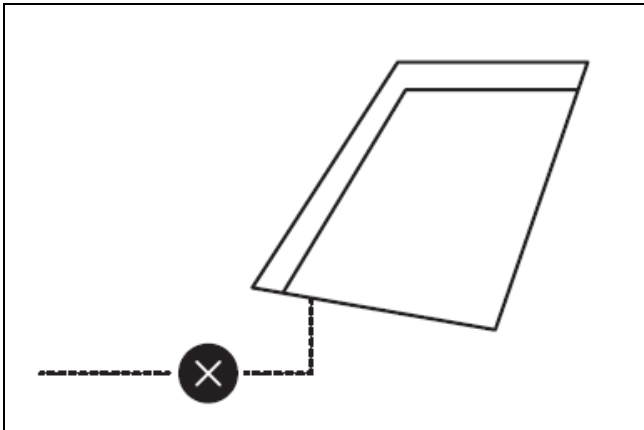

Figure 62
2. Remove the factory installed cable. See Figure 62.